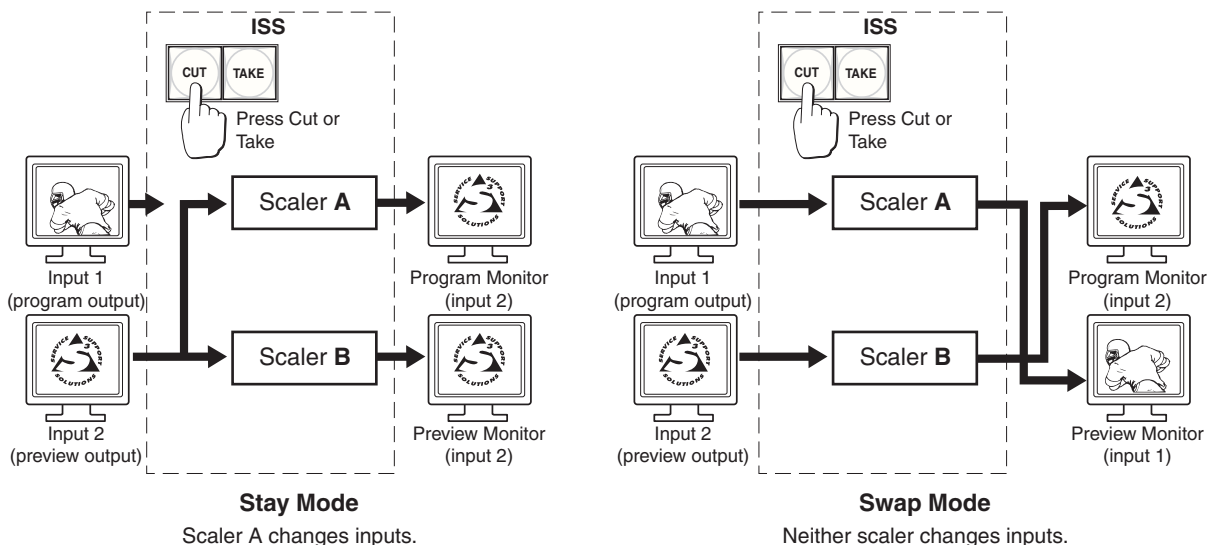

Figure 3-15 — Stay mode and swap mode
- **Stay mode** — For either a cut or take operation, the video and audio signals on the preview output are applied to the program output (figure 3-15) and also continue on the preview output until another input is selected. The video input switches between the switcher's two internal scalers.
- **Swap mode** — For either a cut or a take operation, the preview and program outputs are swapped (figure 3-15). The video and audio signals on the preview output are applied to the program output. The video and audio signals that had been applied to the program output are applied to the preview output.